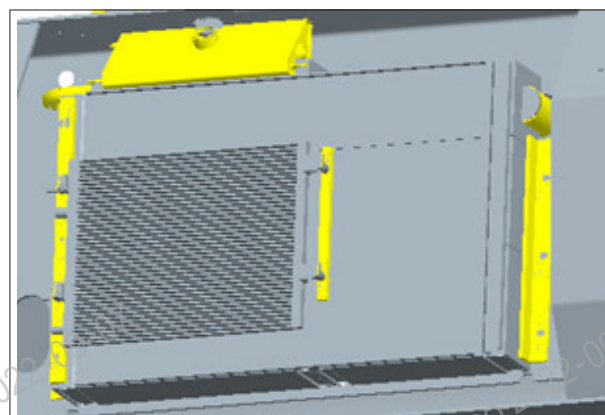

Fig.5-52
- If the white float is at the top, it is normal. See Fig.5-52.